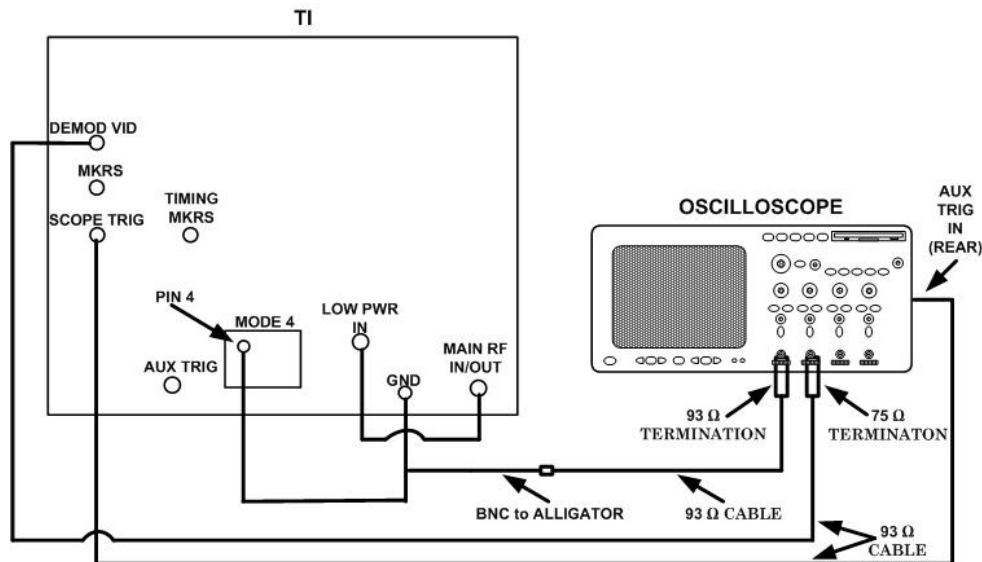

Figure 4. Mode 4 disparity - equipment setup.
- (1) Connect equipment as shown in figure 4.